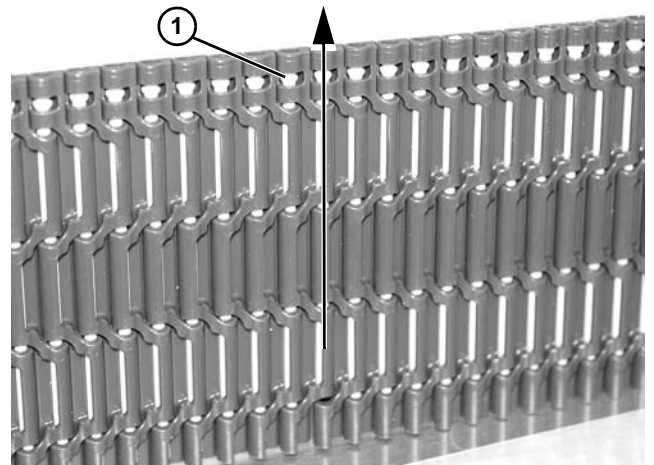

Figure 164
*Note that head of pin (**Figure 164, item 1**) should be removed in direction shown.*